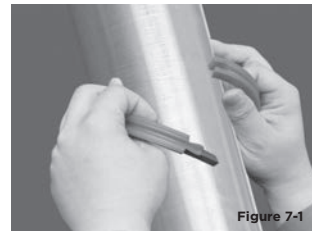

Figure 7-1
2. Pull apart the AIGI 5505H and set it on the shaft (Figure 7-1).